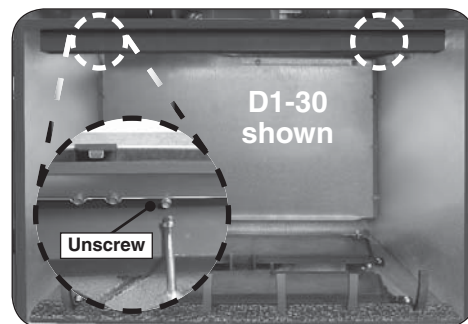

Fig. 29-1 Remove lintel
2. Remove the lintel found at the top front of the unit (to allow for panel placement). Use a $\frac{5}{16}$ " nut driver to remove the two hex screws found on each side of the lintel. See Fig. 29-1.